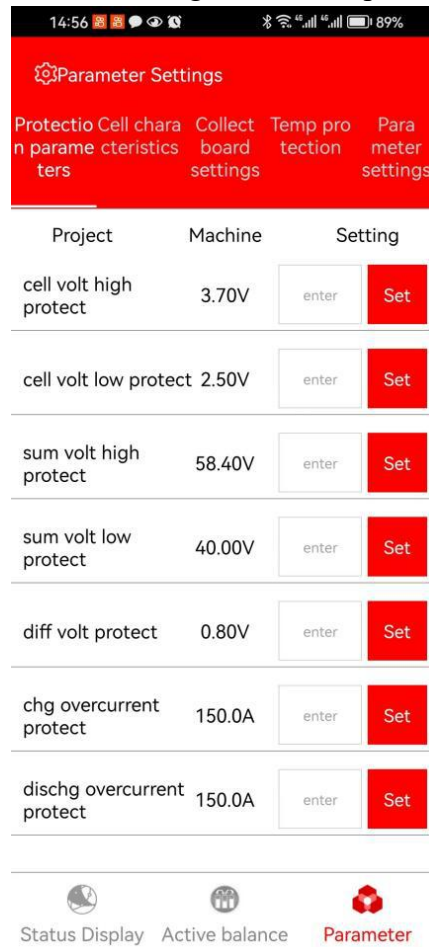

Figure 8. The Protection parameters interface
5.1 Click the "Protection parameters" setting to enter the parameter setting interface (Figure 8);